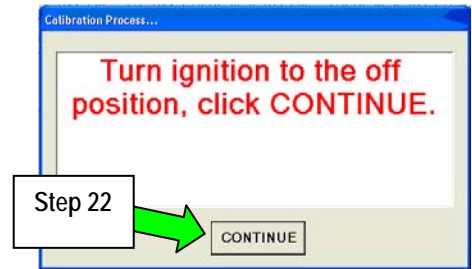

Figure 1k
20. When the calibration process has completed successfully, the message in Figure 1k will display.